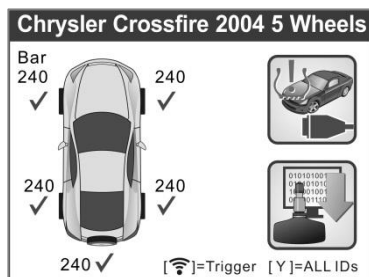

Figure 4.15
- 2) An activation screen with the previously activated sensor information will show up (Figure 4.15). Use the **UP/DOWN** or **LEFT/RIGHT** scroll button to select the desired wheel, and press the **TEST** button to reactivate the sensor, or press the **Y** button to view all detailed sensor data (Figure 4.16).